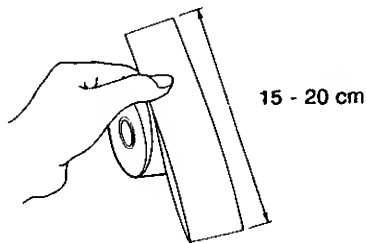

Fig. 3
4. Fold the paper end firmly as shown in Fig. 3 to ease the insertion.